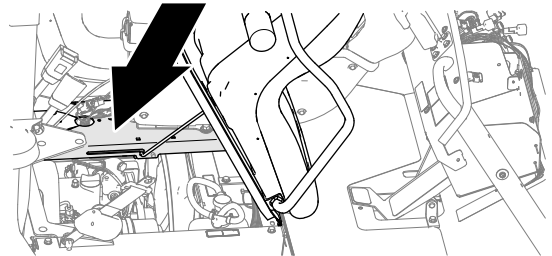

Figure 82
1. Tilt the passenger seat forward to access the console base (Figure 82).